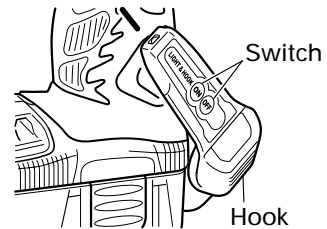

Fig. 13
- (1) Press the switch to turn off the light. If forgotten, the light will turn off automatically after 15 minutes.
- (2) The direction of the light can be adjusted within the range of hook positions 1 - 5. (Fig. 13)